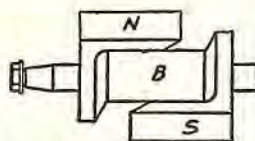
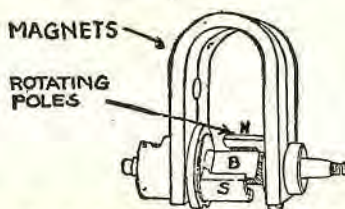

Fig. 9. Rotating element in Dixie.
Fig. 10. Showing how the rotating poles (Fig. 9) are placed between magnets of Dixie magneto.
The Dixie rotating element, or armature construction, consists of two pieces of cast iron (N and S) (Fig. 9), and a brass block (B) placed between them. There are no rotating wires. Figs. 10 and 4 show more clearly how they are positioned between the poles of the magnets. On the four and six-cylinder magneto, there are two N and S poles and on the eight and twelve-cylinder magneto there are four.